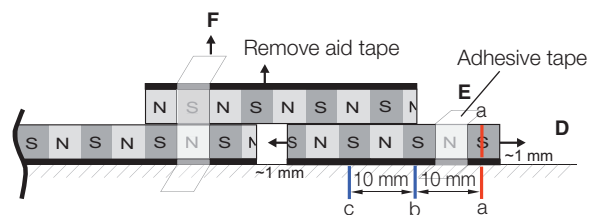

Fig. 4-11: Make three marks a, b, and c
5. Slide the second tape M2 under the aid tape in both directions until you find the area with the maximum attraction. Fasten tape M2 in this stable position using adhesive tape. Remove the aid tape (Fig. 4-11). M1 and M2 are now aligned polysynchronous.
6. Mark tape M2 and the machine part at any position (a) (Fig. 4-11). Starting from this mark, in the direction of the joint make two further marks (b and c) at a distance of 1 pole pair each (10 or 20 mm) just on the machine part.